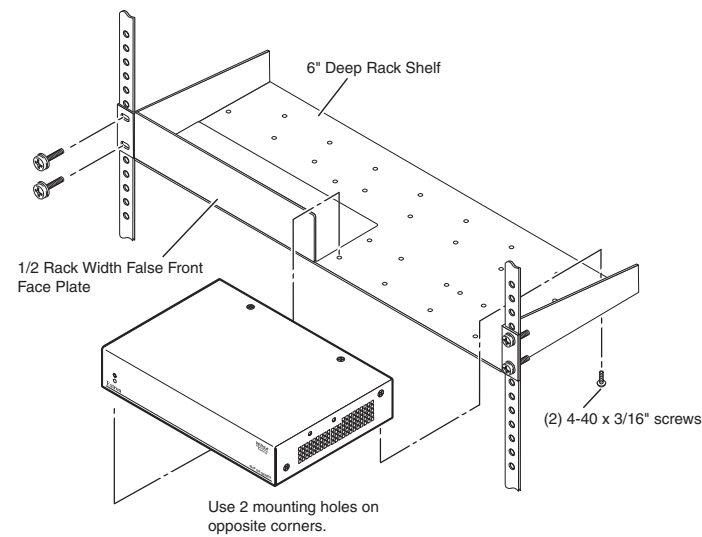
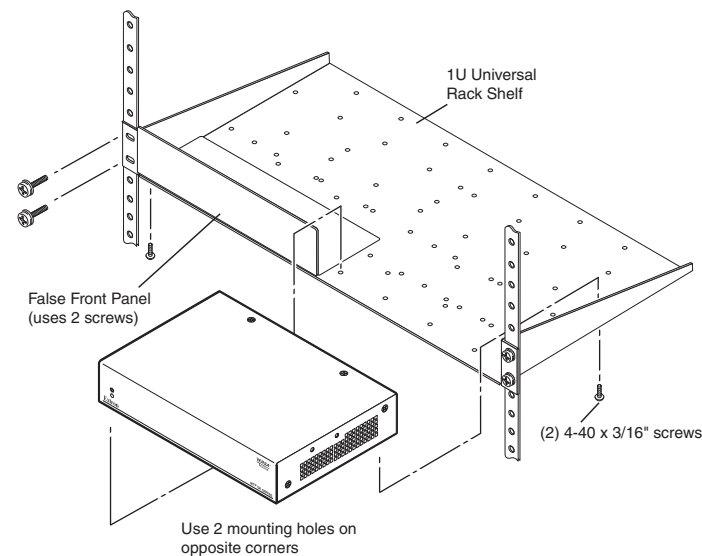

Figure 3 — Mounting on a 6" deep rack shelf
Figure 4 — Mounting on a 1U universal rack shelf
2. Mount the DA on the rack shelf, using two 4-40 x 3/16" screws in opposite (diagonal) corners to secure it to the shelf (figure 3 and figure 4).